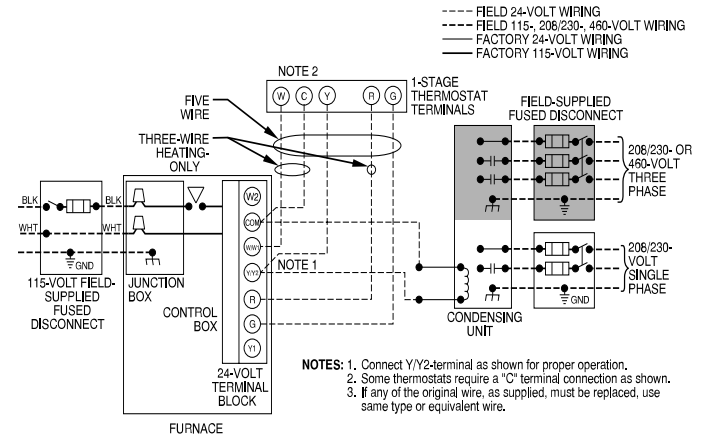

Fig. 33 – Typical Field Wiring Diagram
See Fig. 33 for field wiring diagram showing typical field 115-V wiring. Check all factory and field electrical connections for tightness. Field-supplied wiring shall conform with the limitations of 63°F (33°C) rise.
6. Connect power cord power and neutral leads to furnace power leads as shown in Fig. 33.
5. Connect field power and neutral leads to furnace power leads. as shown in Fig. 33.
Make field 24-V connections at the 24-V terminal strip. See Fig. 38. Connect terminal Y/Y2 as shown in Fig. 33 for proper cooling operation. Use only AWG No. 18, color-coded, copper thermostat wire.